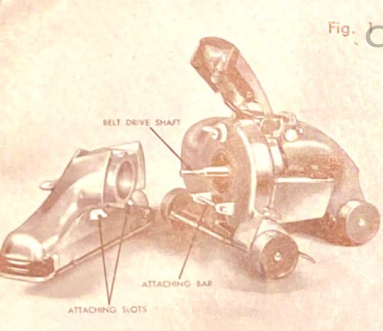

Fig. 1
**STEP 3:** Place Attaching Slots at back of Rug Nozzle on the Attaching Bar. (see figures 1 and 2). Swing nozzle back toward Motor Unit with a slight downward pressure to overcome spring tension on Safety Switch (see figure 2). Hold nozzle in place with one hand and lock in place with Attachment Lock Lever at top-front of Motor Unit. (see figure 3).